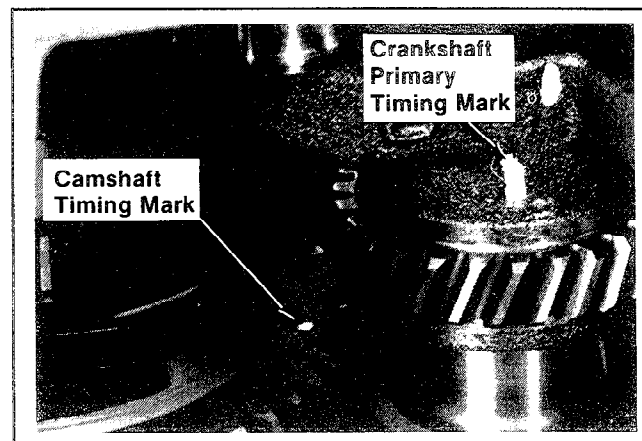

Figure 12-11. Aligning Crankshaft And Camshaft Timing Marks.
2. Align the primary timing mark on crankshaft with the timing mark on camshaft. Refer to Figure 12-11. Press the crankshaft into rear bearing. Make sure the camshaft and crankshaft gears mesh and that the timing marks remain aligned while pressing.